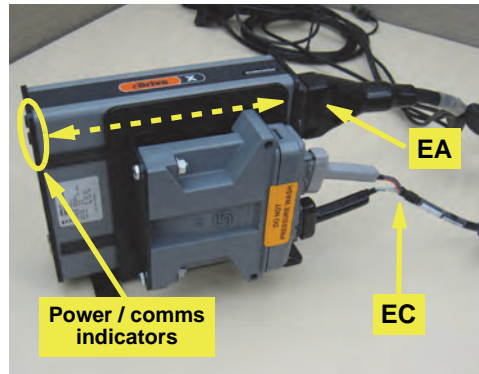

Figure 2a: Installed ECU and steering controller cables
- a. If not already attached, attach main cable **EA** to **EJ** using an Allen wrench to secure the cable. The **EA** connector only connects with the **EJ** socket that is in line with the power and communications indicators at the opposite end of the ECU—the upper socket in this installation (Figure 2a).
Attach steering controller cable **EC**'s two 12-pin plugs to the corresponding gray and black connectors on the steering controller **EK** (Figure 2a).